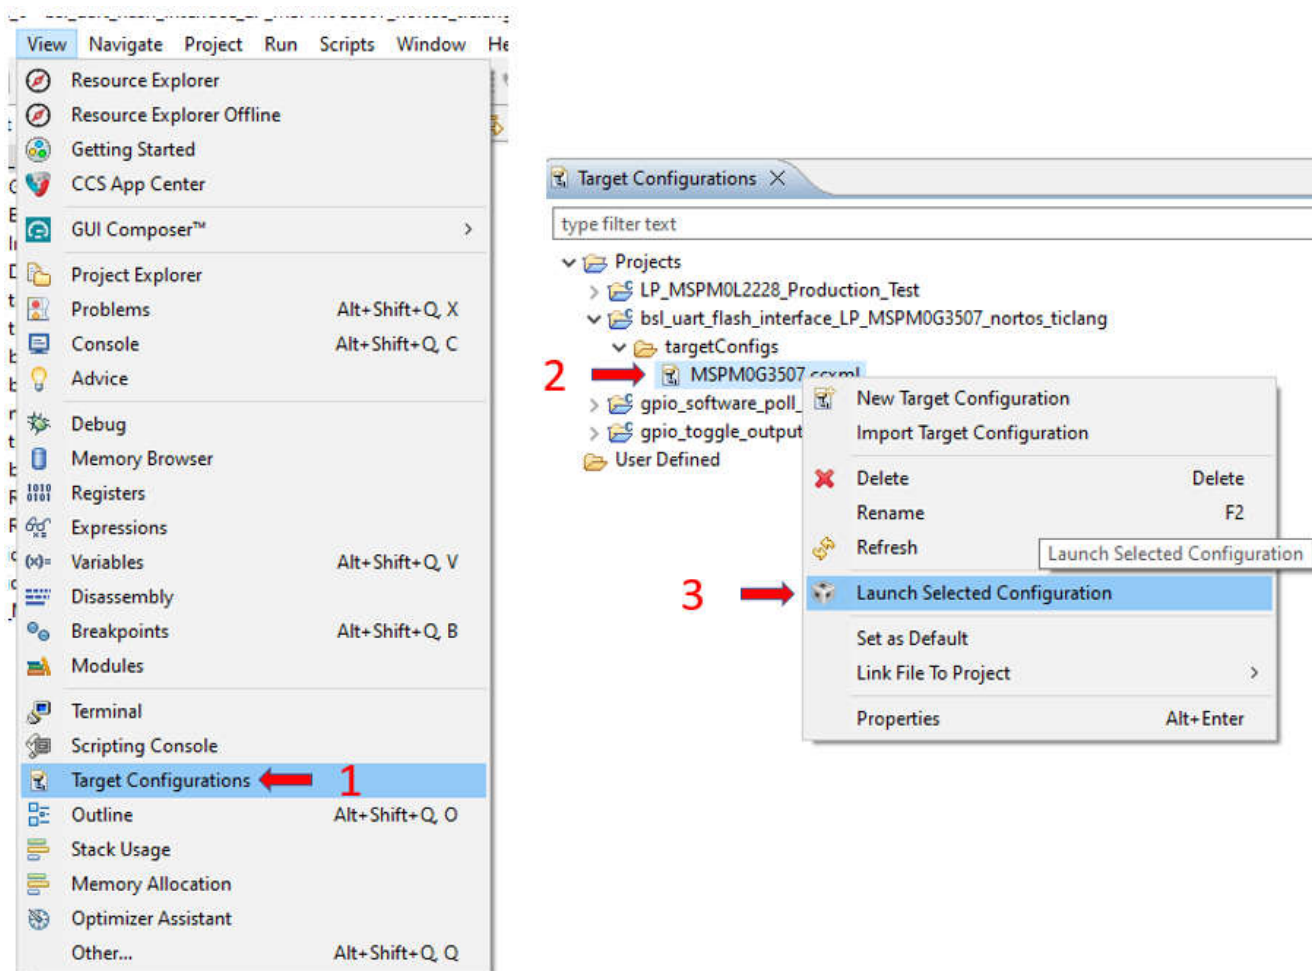

Figure 4-1. Launch the Device in CCS
3. Launch the device as shown below in Figure 4-1. Step 2 is to right click of the ccxml file.